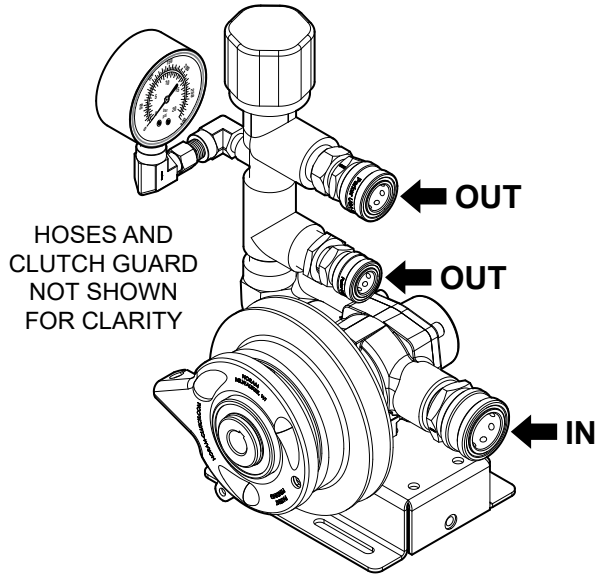

Figure 19. Pump Inspection
1. Inspect the pump inlet (**IN**) and discharge (**OUT**) lines to make sure they are clear. Obstructed lines will prevent self-priming of the pump. See Figure 19.